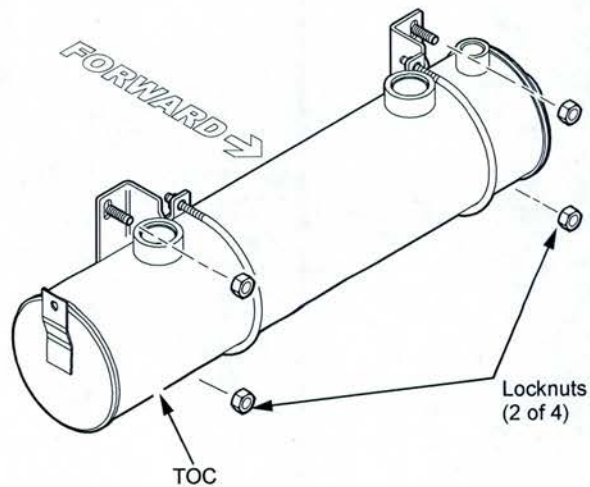

Figure 6
11. Remove the 4 fasteners securing the TOC to the cross member and discard the fasteners (see Figure 6).